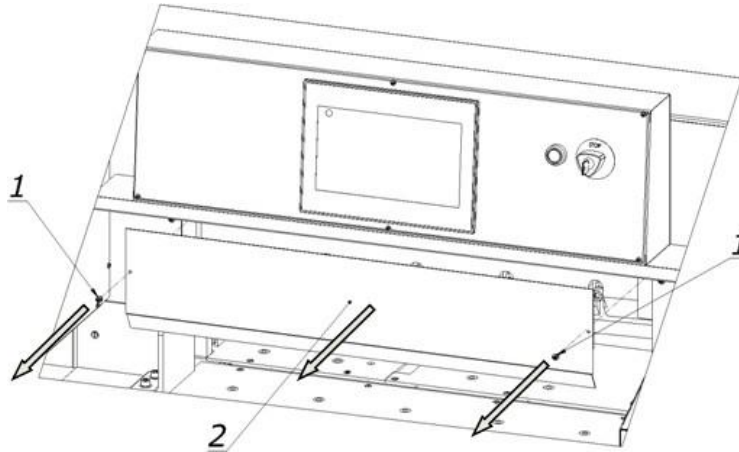

Figure.21
4. Remove the four screws 1 (fig.21) securing the cover 2 and remove the cover 2.